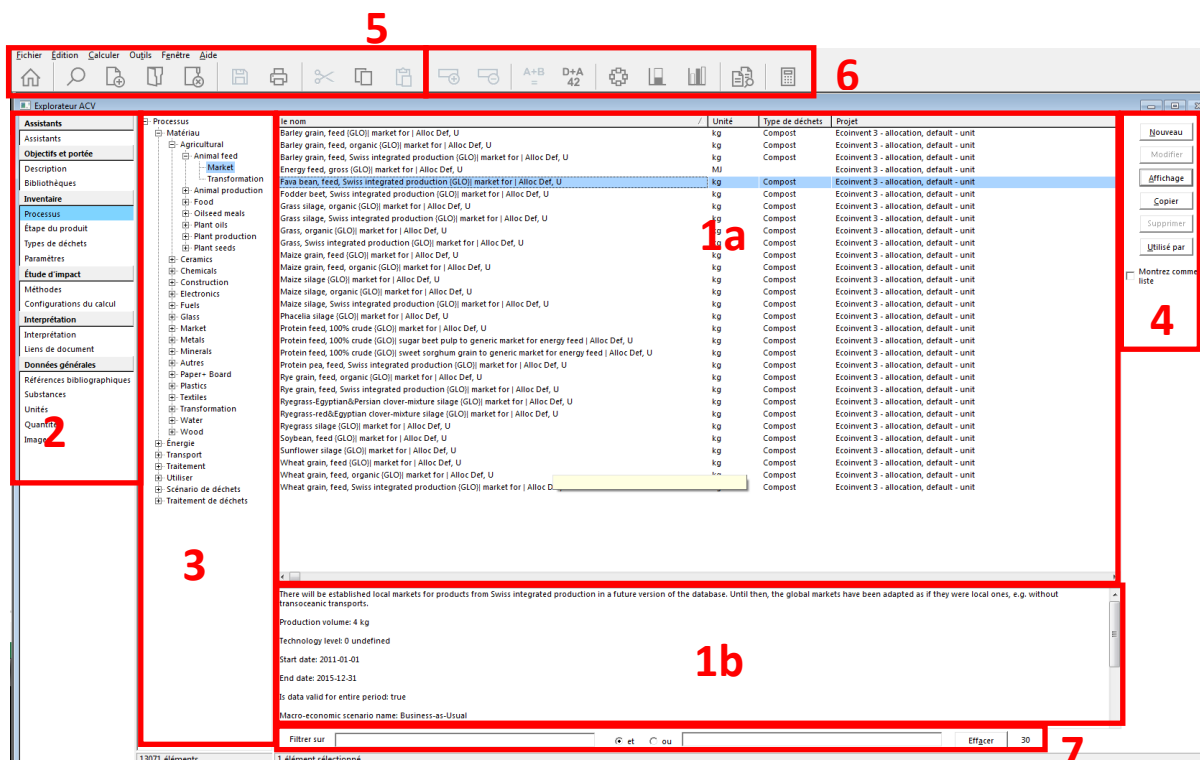

Figure 2 - project opening
Once you have chosen your libraries, select Process (in the inventory part, frame 2). You arrive at the place below (Figure 2). The main part of SimaPro (frame 1) is the explorer, on the left we have the windows that allow us to move through the different steps of the LCA (2) and within these steps (3). The right side (4) allows us to perform different actions such as creating processes, assemblies, modifying them, copying them, etc.
In the left window (frame 2, Figure 2), we have in order the different steps that make up the LCA:
As we can see in frame 1a (Figure 2), SimaPro is provided with several data libraries (Ecoinvent, ELCD, IDEMAT,...). The different libraries are not necessarily consistent with each other on different parameters: regionalization, temporal limits, assumptions, system limits... . For this project we will use the Ecoinvent database that you have seen in class.